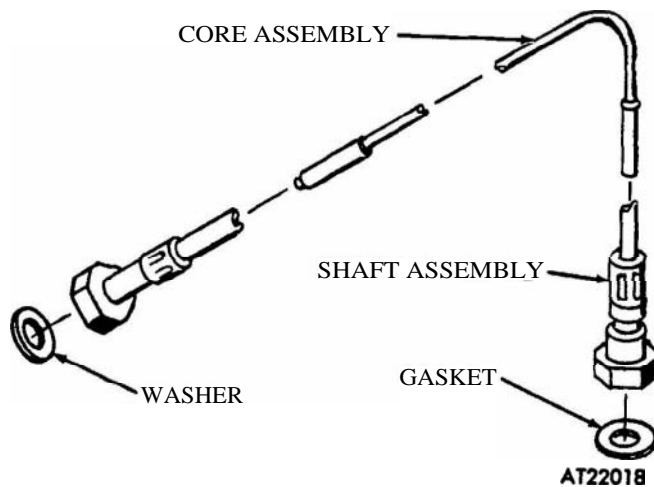

Figure 2-366. Flexible drive shaft, disassembly and assembly.
b. *Disassembly.* Grasp shaft case and pull core from shaft (fig 2-366).